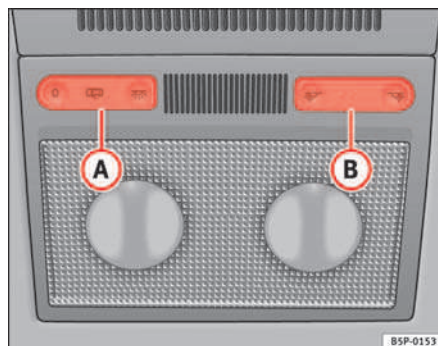
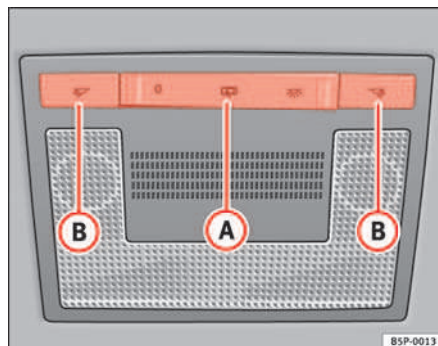

Fig. 81 Detail of the roof:
Fig. 82 Detail of the roof:
Press the corresponding button ⇒ fig. 81 (B) and ⇒ fig. 82 (B) to switch on the reading light.